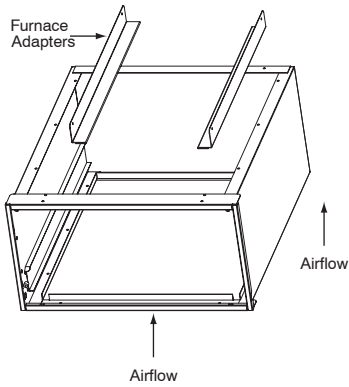

Fig. 5 - Use of Furnace Adapters
- e. Furnace adapters have been included for installer convenience. They are designed for top or bottom mount installations (see Fig. 5).